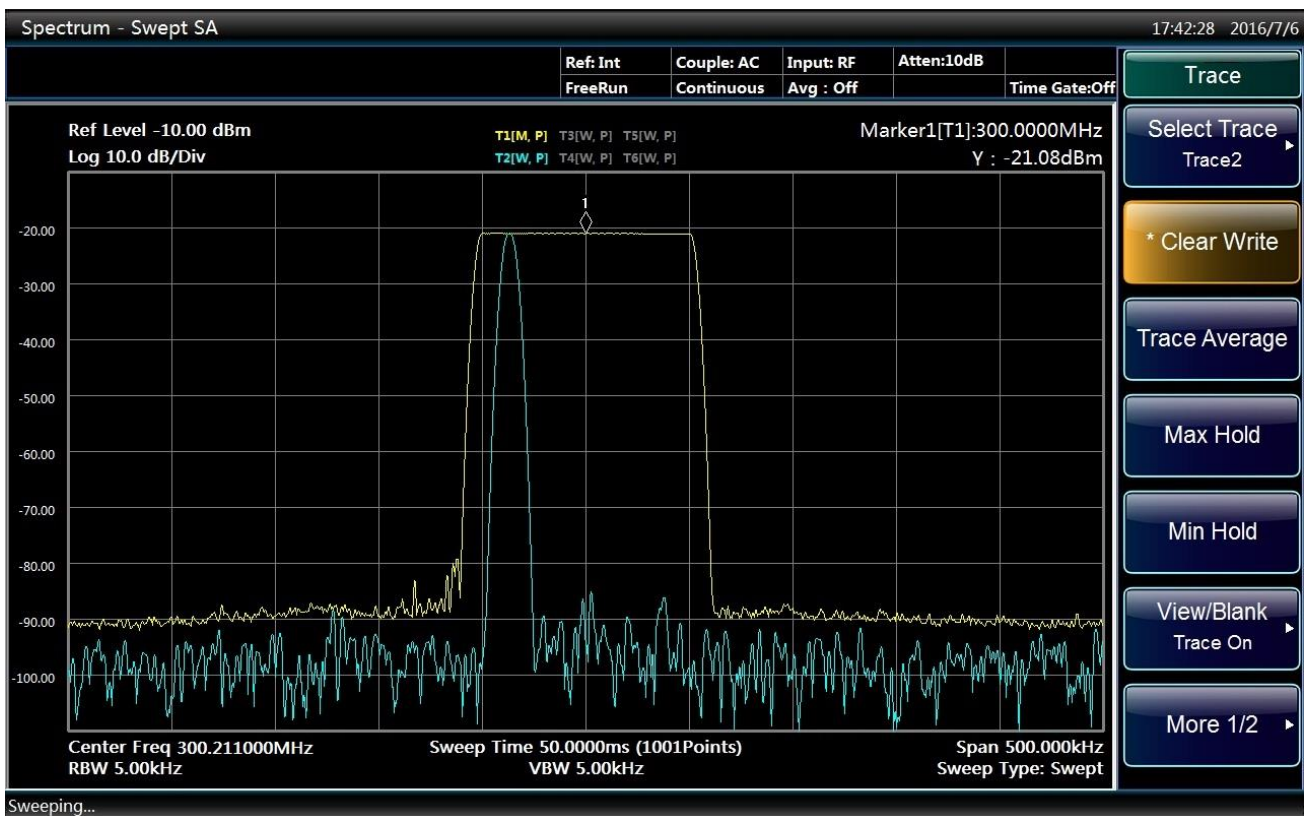

Fig. 4.37 Signal drift observation by the max hold
Step 10. slowly change the output frequency of signal generator, to make it change at 1kHz step and range from ± 50 kHz. What displays on the Series Signal Analyzer is shown in Fig. 4.37.